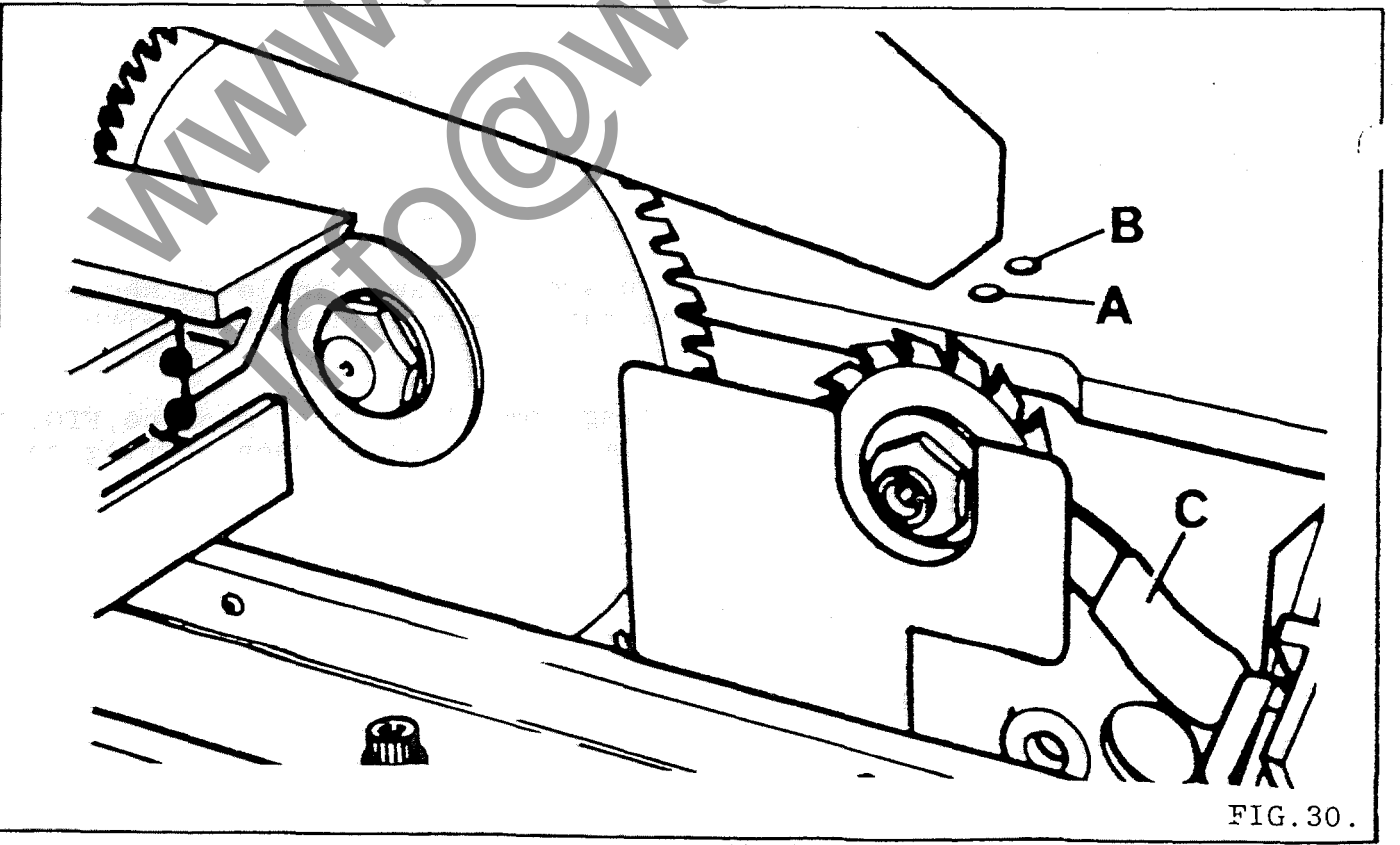

FIG. 30.
2. Lateral adjustment to scoring blade is by releasing 8mm socket head cap screw lock "A" in FIG.30 (8mm allen key supplied) then adjust blade laterally by 8mm socket head cap screw "B". When set correctly, re-lock socket head cap screw "A".
3. Adjust scoring blade vertically by loosening 8mm socket head cap screw lock "A" in FIG.30, then move blade vertically by lever "C". When set correctly, re-lock socket head cap screw "A". Correct vertical adjustment is attained when the scoring saw scores the full underside length of panel.